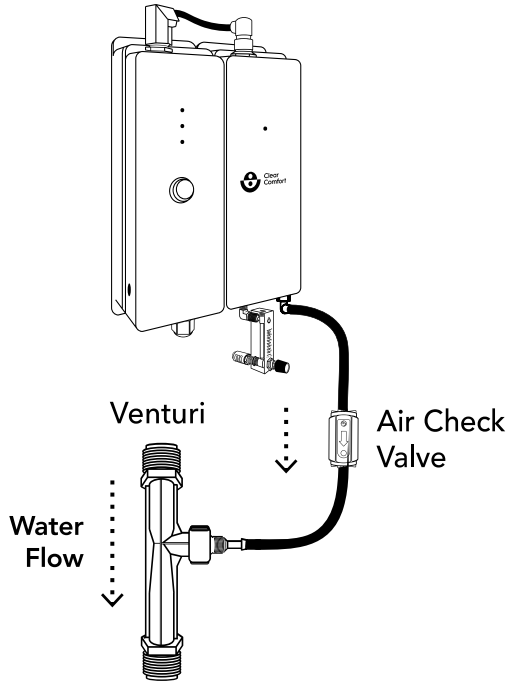
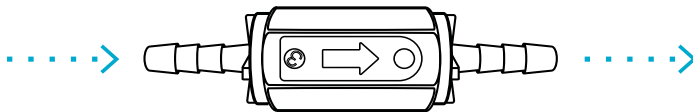

Figure 10: Venturi Connection
Figure 11: One-Way Air Check Valve
1. Run provided 1/4-inch tubing from the Manifold injection port to the straight barb fitting. Length of tube should be less than 10 feet. Shorten and cut tubing as possible. See Figure 10.
2. Install 1/4-inch one-way Air Check Valve (supplied) to prevent any potential water back flow. See Figure 10 and Figure 11 for details.